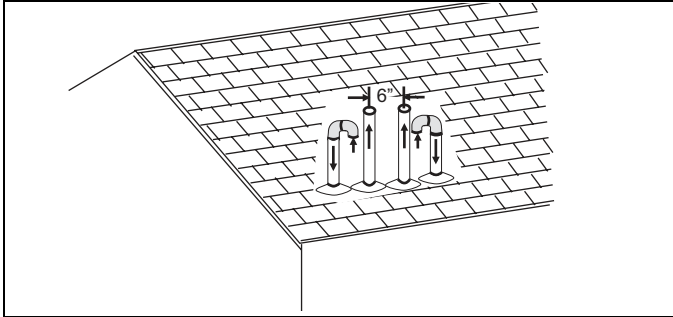
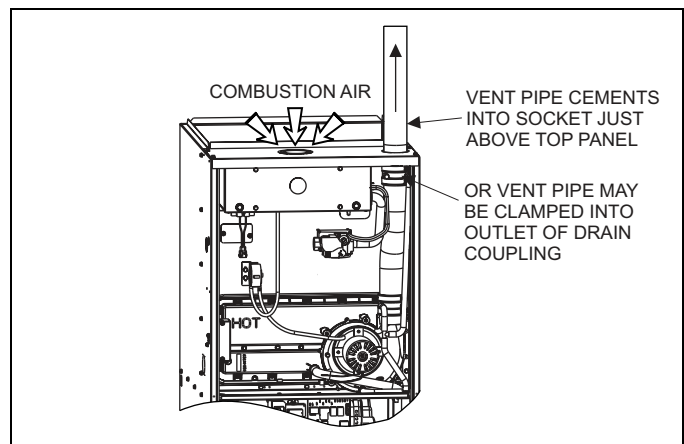

FIGURE 15: Double Vertical Sealed Combustion Air and Vent Termination
FIGURE 17: Combustion Airflow Path Through The Furnace Casing
The combustion air side of the two-pipe configuration shown in Figure 17 can be installed so the combustion air pipe terminates as described in outdoor combustion air or ventilated combustion air sections in these instructions. Follow the instructions for outdoor combustion air or ventilated combustion air and the instructions for installing the vent system with the vent terminating as shown in Figures 15 or 16. The two-pipe system must have a separate combustion air pipe and a separate vent pipe for each furnace. Under NO circumstances can the two combustion air or vent pipes be tied together. The combustion air and vent pipes must terminate in the same atmospheric zone.
1. **OUTDOOR COMBUSTION AIR:** This is a sealed combustion air configuration where the combustion air is supplied through a PVC or ABS pipe that is connected to the PVC coupling attached to the burner box and is terminated in the same atmospheric zone as the vent. This type of installation is approved on all models. Refer to Figure 17.
This installation requires combustion air to be brought in from outdoors. This requires a properly sized pipe (Shown in Figure 17) that will bring air in from the outdoors to the furnace combustion air intake collar on the burner box. The second pipe (Shown in Figure 17) is the furnace vent pipe.